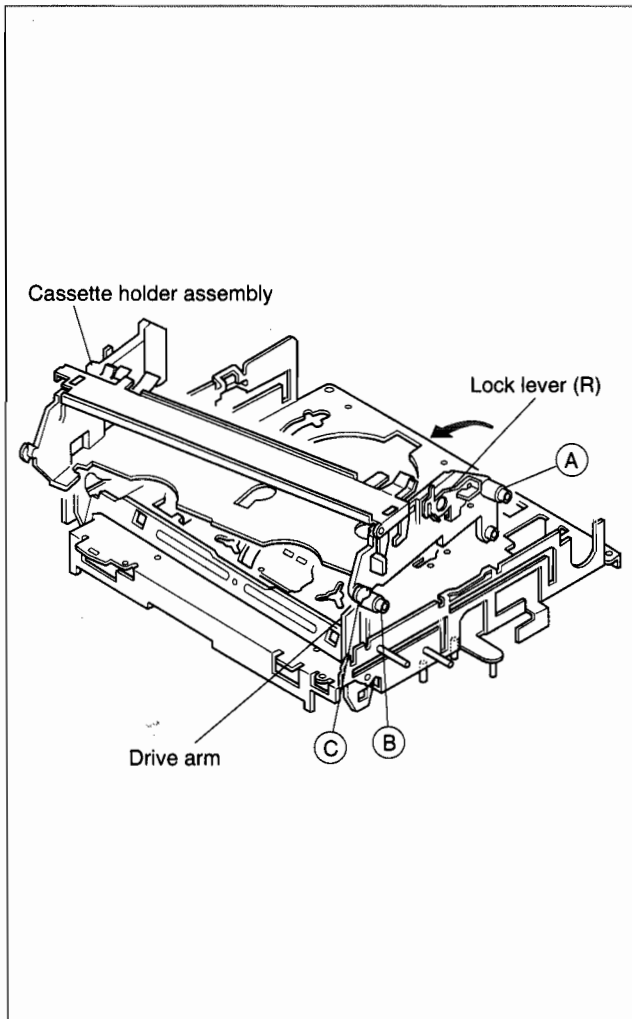

Fig. 2-2-8
- (3) Hold the drive arm upright and fit the leg (C) on the right side of the cassette holder assembly into the groove. (See Fig.2-2-8.)
- (4) While swinging the lock lever (R) of the cassette holder assembly toward the front, put the legs (A) and (B) into the rail. (See Fig.2-2-8.)